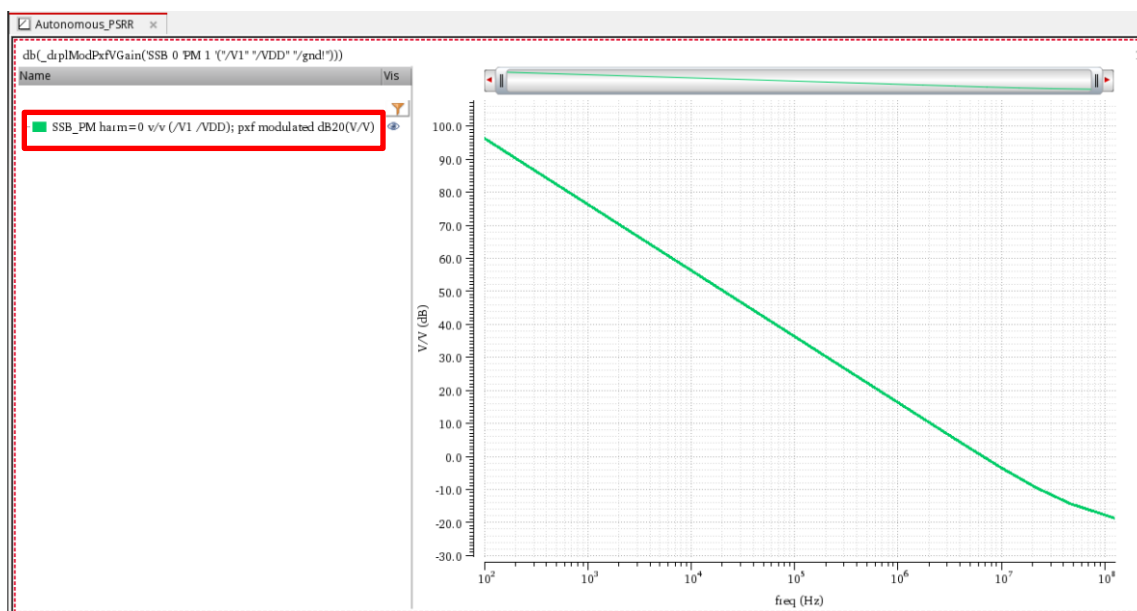

Figure 27: Modulated PXF result (VDD sensitivity) in log scale
- When it is defined as the ratio of the output amplitude variation of the signal to the amplitude variation on the power supply pin, the dB plot (VDD sensitivity) as shown in Figure 27 will be the answer.